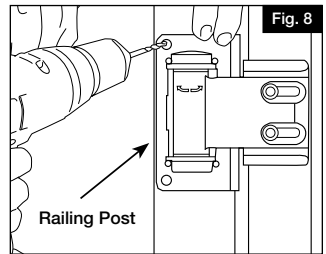

Fig. 8
- c. While holding swing arms firmly against post, mark pilot holes on the post, through the two screw slots in the front of the swing arms (Fig. 8). Remove gate and drill 3/32" pilot holes in post. Re-position gate on post and secure hinges with two 1 1/4" pan head screws per hinge.